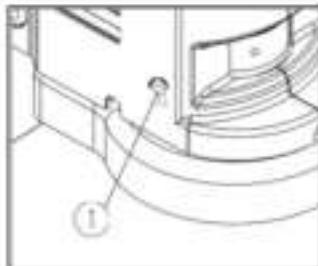

Fig.9
- Rotate the zoom adjustment ring (1) to the maximum magnification.
- Observe the output image, if it is not clear, rotate the focusing knob (2) to make it clear.
- Observe the output image until it is clear. (See Fig.9)
If use a fixed magnification for long term or use with shake, tighten and fix the magnification lock-screw (1) with a M4 inner hexagon spanner (side length 3mm). (See Fig. 9)